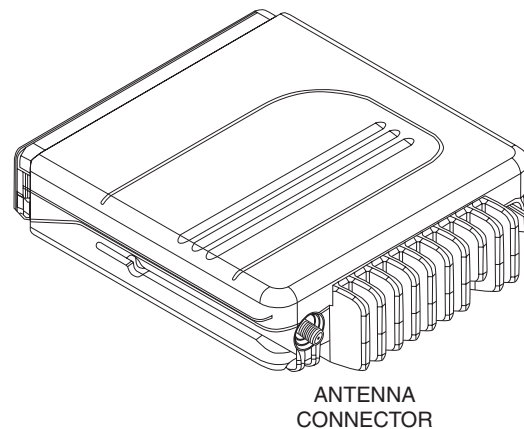

Figure 5. Connecting the Antenna Cable Mini-UHF Connector to the Antenna Jack
3. Connect the antenna cable mini-UHF connector to the antenna jack on the rear of the VRS750 (see Figure 5). A mini-UHF crimp connector is provided with each VRS750 unit for easier installation with a pre-existing antenna. Ensure that the antenna's cable connector is fully tightened. An adapter should NOT be used between the antenna cable mini-UHF connector and the VRS750.